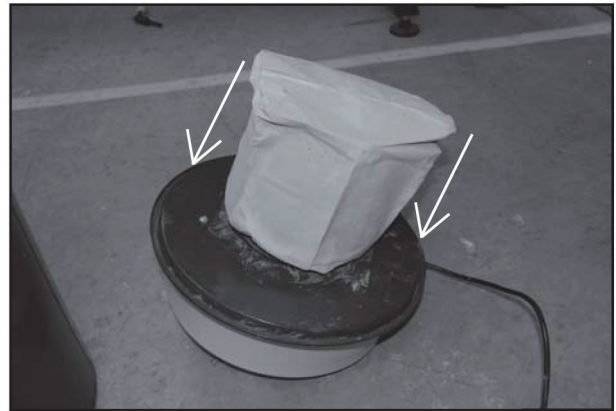

Fig.04
4. Push the filter assembly onto the motor body making sure that it is secure. (Fig.04)